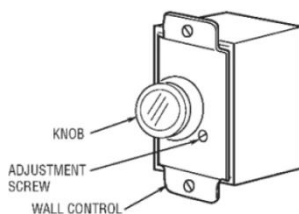

Figure 4
1. Turn the wall control "ON" using the knob. Set the fan to "High" speed and allow the fan to run for 30 minutes to normalize the motor temperature (Figure 4).
2. It is recommended that the fans rotate at a minimum of 60 RPM on low speed to avoid stalling the motor. To adjust the fan RPM, locate the adjustment screw on the control's front panel (Figure 4). With a small flat blade screw driver, slowly turn the adjustment screw clockwise to decrease RPM and counter-clockwise to increase RPM. Turn the adjustment screw in small increments and allow the fan to speed up or slow down before making the next adjustment.